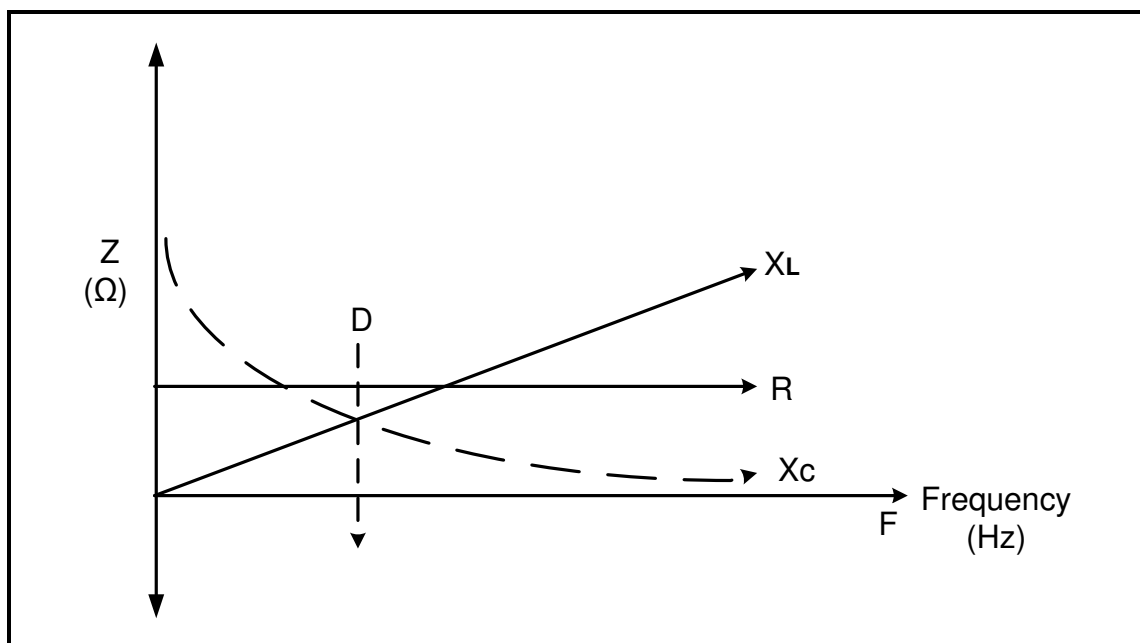

FIGURE 2.3 : FREQUENCY VERSUS IMPEDANCE
2.3 Refer to FIGURE 2.3 and answer the questions that follow.